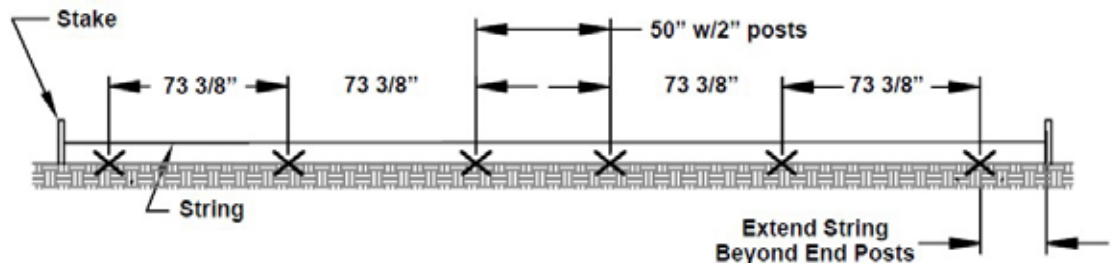

Fig. 6
2. Mark holes every 73-3/8" with 2" posts on center – if there is a gate in the line add 2" to gate opening when marking – then resume the 73-3/8" with 2" posts panel spacing. **Example:** If you have a 48" gate opening, mark the holes for your gate posts 50" on center with 2" posts - Figure 6